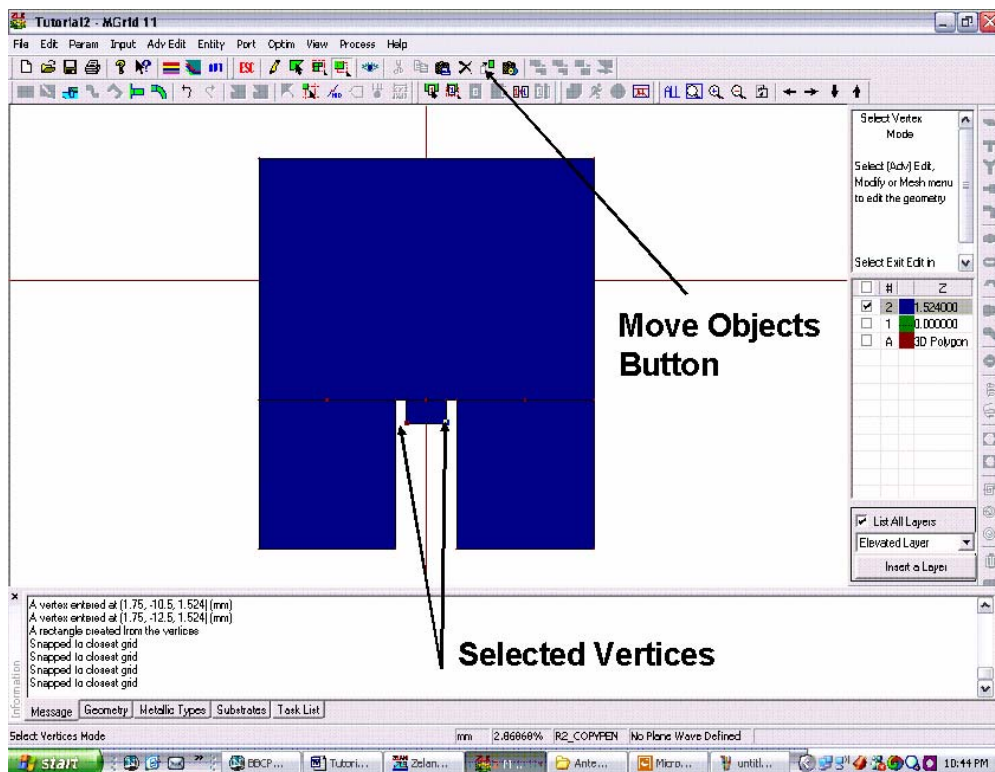

Figure 16.
- 18) Now that the two vertices are selected, you can move them and change the length of the feeding microstrip. While the lower two vertices are selected, press the “Move Objects” button (  ) as it is shown in Fig. 16.
- 19) Enter 0 for the X-offset and -29 for the Y-offset values; this extends the length of the microstrip line. The layout should now look like the one shown in Figure 16 and the drawing stage is complete.